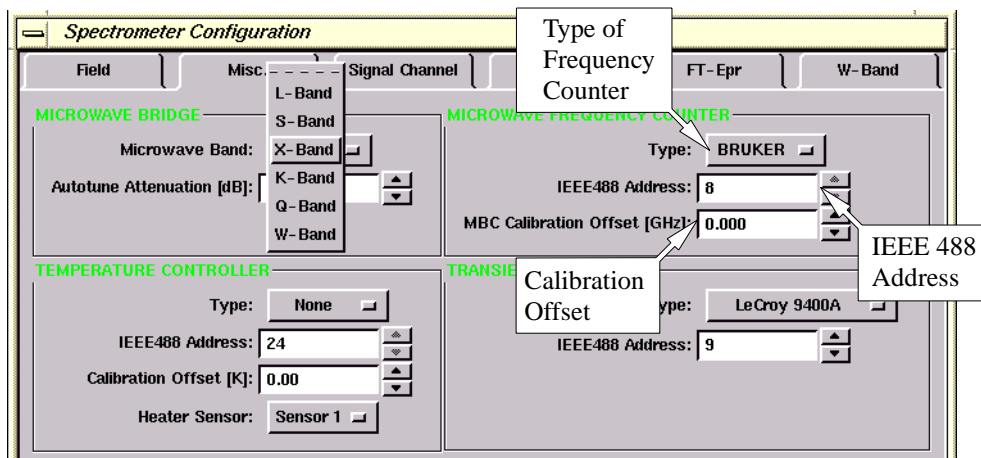
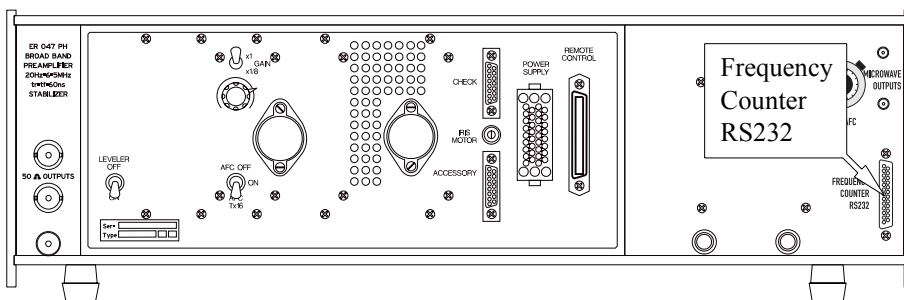

Figure 12-1 Configuring a frequency counter.
Figure 12-3 The frequency counter RS232 connector on the back of the bridge.
The MBC (Microwave Bridge Controller) board supplies microwave frequency readings from control voltages in the bridge. If you do not have a frequency counter, this is your only option. Click **Acquisition > Spectrometer Configuration > Misc.** (See Figure 12-1.) Select **MBC** from the drop-down list in the **Frequency Counter** section. (See Figure 12-2.)
4. **Enter the value for the MBC Calibration Offset.** (See Figure 12-1.)
Connect the cable labeled MBCT-MWB 4001589 to the RS232 connector on the back of the bridge. (See Figure 12-3.) Click Acquisition > Spectrometer Configuration > Misc. In the Frequency Counter section select Bruker in the drop-down list. (See Figure 12-1 and Figure 12-2.)
Turn on the frequency counter and the Elexsys E 500 spectrometer. Click Acquisition > Spectrometer Configuration > Misc. Select the proper frequency counter in the drop-down list. (See Figure 12-1, and Figure 12-2.)